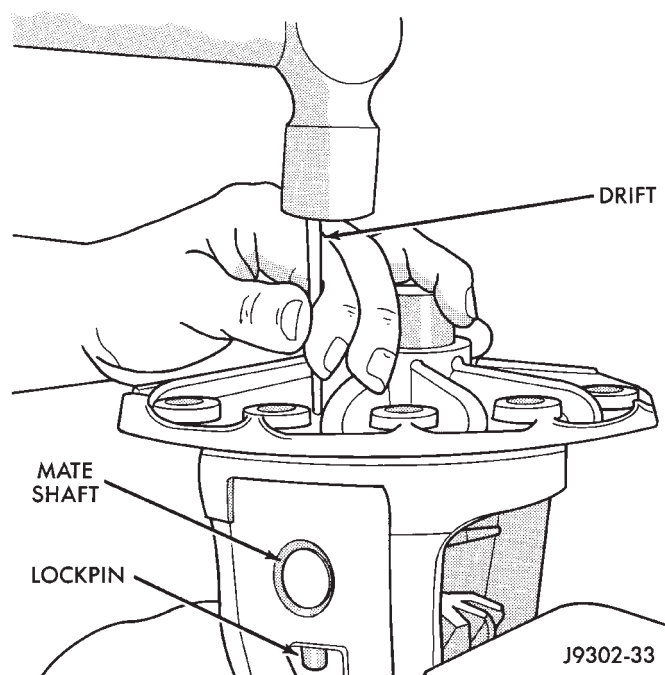

Fig. 51 Mate Shaft Roll Pin Removal
- (1) Remove the ring gear.
- (2) Using a suitable roll pin punch, drive out the roll pin holding pinion gear mate shaft in the differential case (Fig. 51).